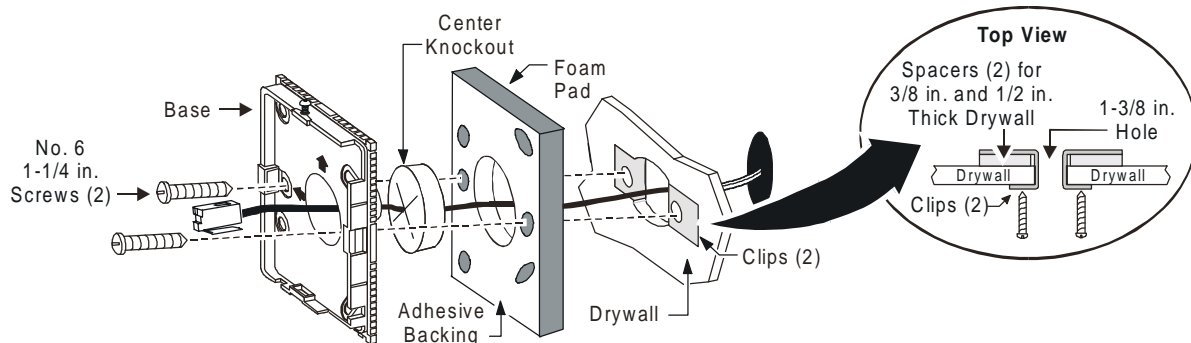
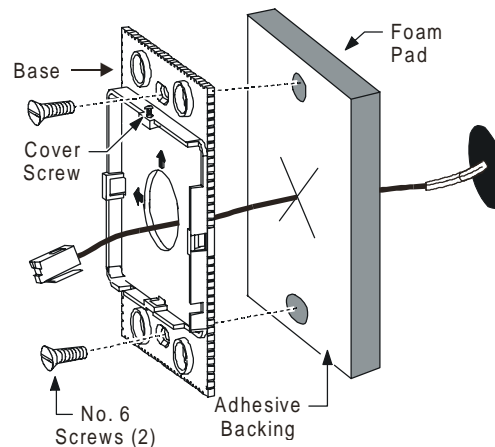

Figure 1: Surface Mounting for HE-6400 and TE-6400 Series Sensors
Figure 3: Wallbox-Mount Pad Kit
The ACC-INSL-1 is for use with surface-mounted units. (See Figures 1 and 2.) The ACC-INSL-0 (Figure 3) is for use with wallbox-mounted units.
2. Remove the center knockout section from the foam pad. (See Figure 1.)
5. Insert the spring clips on each side of the drilled 1-3/8 in. hole as shown in Figure 1. (Do not use the spacers for 5/8 in. drywall.)
3. Pull the wiring through the foam pad and base. Rotate the base so one of the arrows on the base points up. (See Figure 3.)